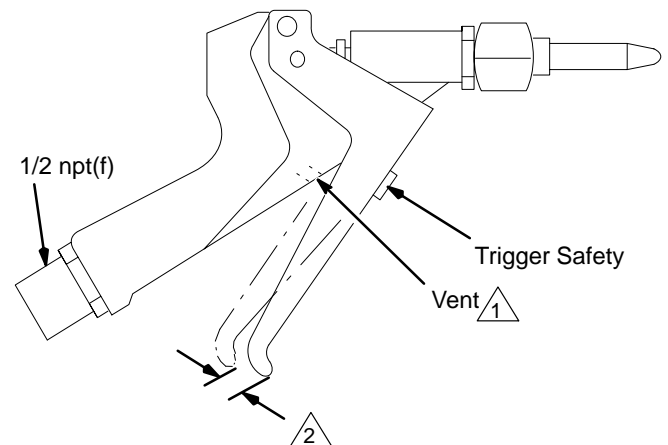

Fig. 1
To unlock the gun's trigger safety, push it in as you squeeze the trigger. See Fig. 1.
NOTE: Periodically inspect the vent in the gun handle for build-up of fluid, which could indicate an internal leak. See Fig. 1. Service the valve needle and packing as needed.
2. Squeeze the gun trigger. Remove the valve seat (2). Let the spring (8) push the valve stem (3) forward, and then loosen the nut (4).
3. Remove the actuating pin (24), then turn the adjusting nut (21) out a couple of turns.
4. Reassemble the gun and check the free travel of the trigger. It should be approximately 3/16 inch (3.18 mm). See Fig. 1.